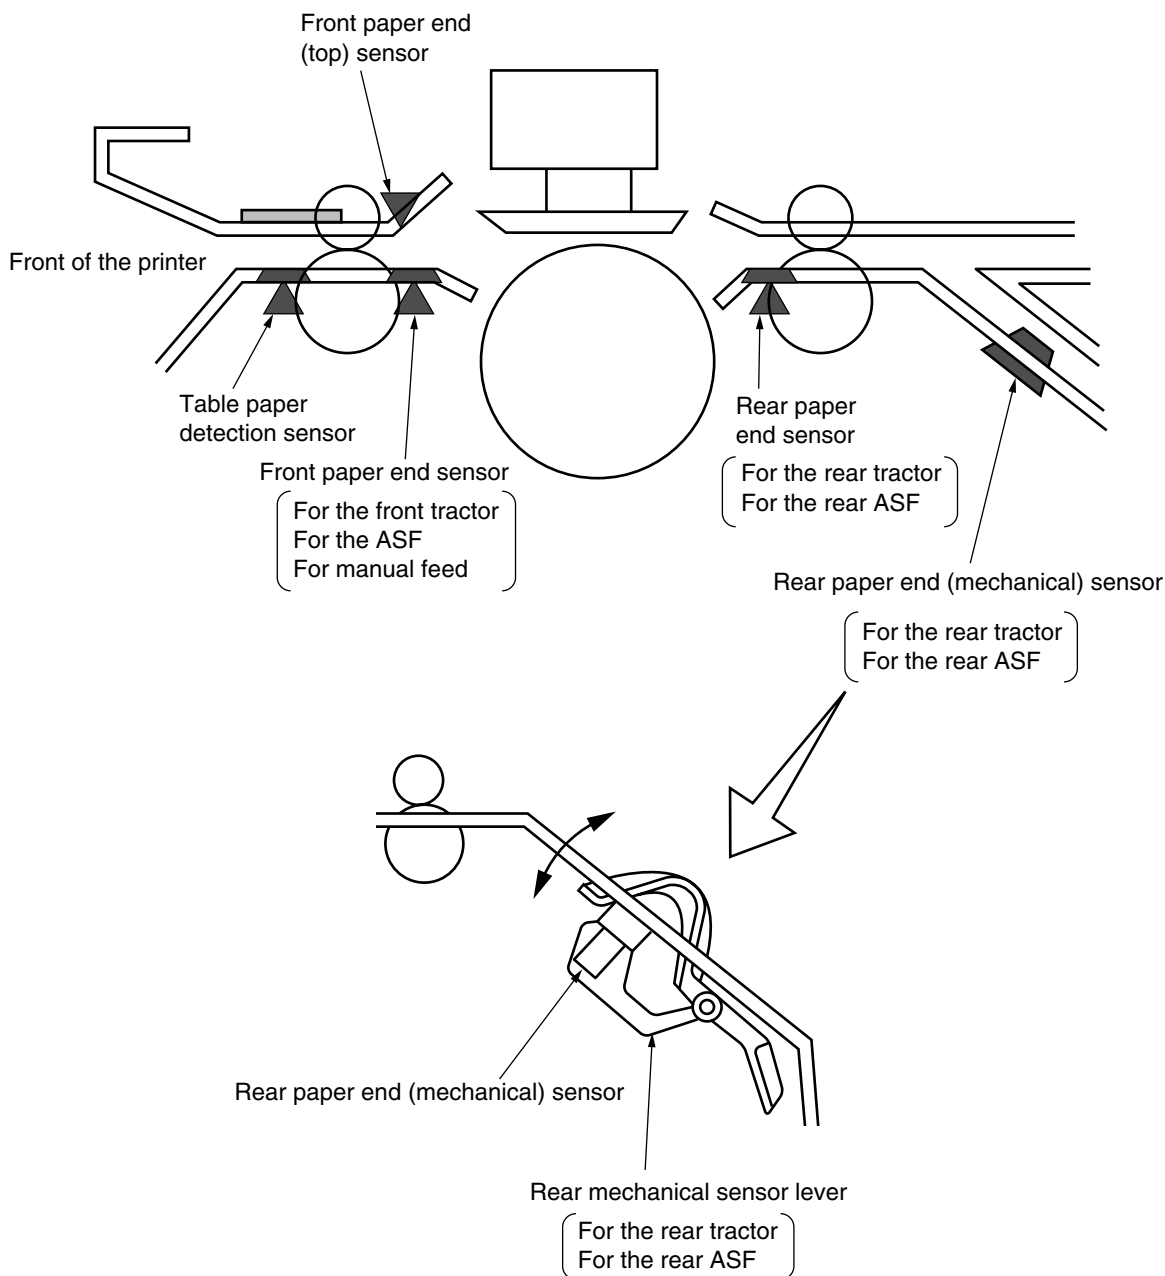

Figure 12-11. Paper End Detection Mechanism
12.3.6 Paper End Detection Mechanism (See Figure 12-11.)